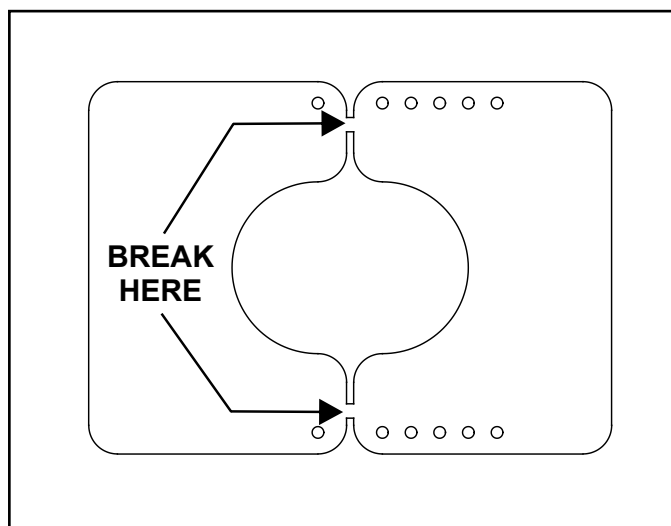

Figure 4.14 Break the Exhaust Restrictor
2. Break the flue restrictor into two pieces. Do this by bending the part back and forth until it breaks. See Figure 4.14.
1. Break the flue restrictor into two pieces. Do this by bending the part back and forth until it breaks. See Figure 4.14.